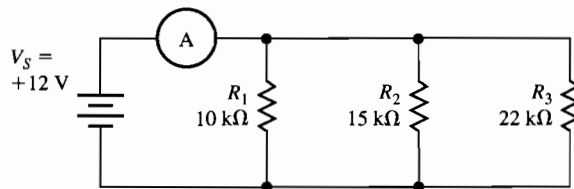

Figure C-5-1
16. For the parallel circuit shown in Figure C-5-1, assume the ammeter reads 1.75 mA. What is the likely cause of trouble? Justify your answer.